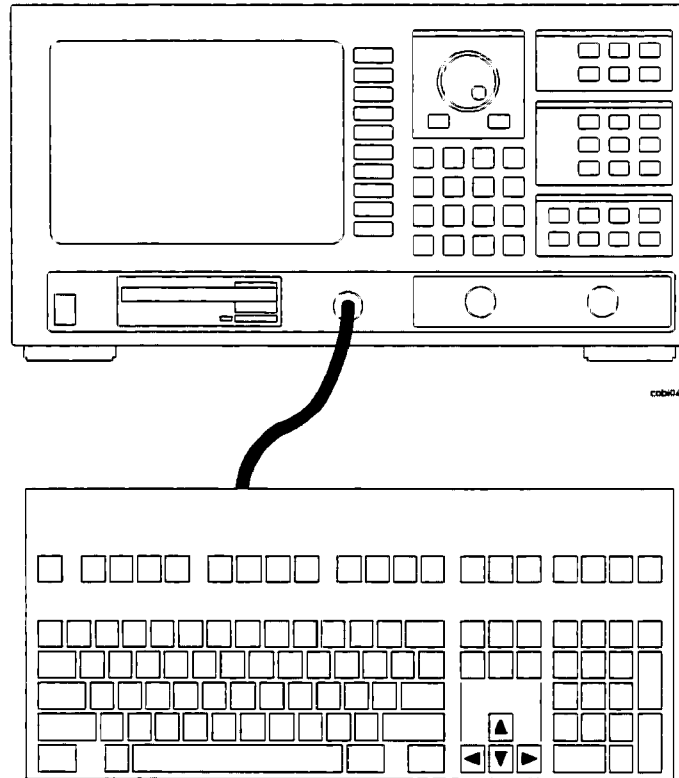

Figure 2-5. Connecting the Keyboard
2. Connect the round plug on the keyboard cable to the KEYBOARD connector on the analyzer's front panel. Make sure to align the plug with the connector pins (see figure 2-5).